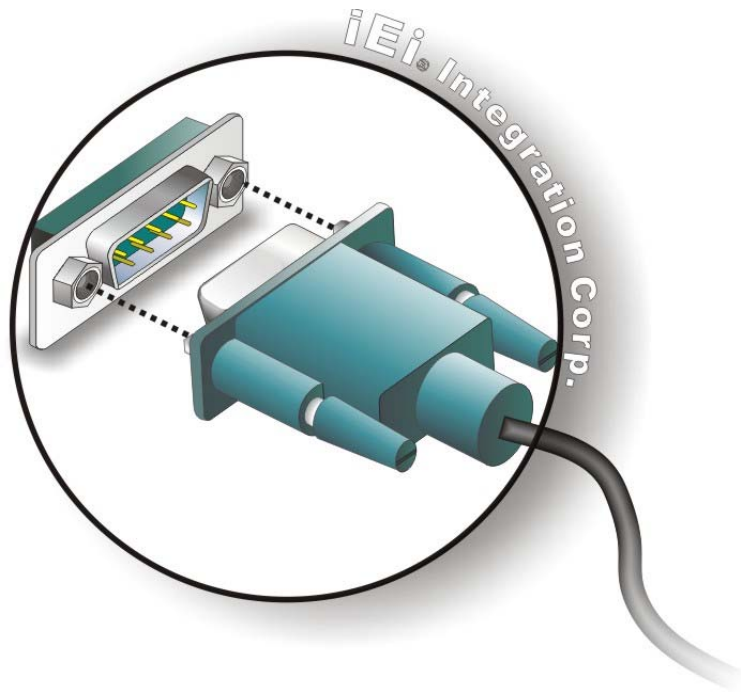

Figure 4-21: Serial Device Connector
Step 2: Insert the serial connector. Insert the DB-9 connector of a serial device into the DB-9 connector on the external peripheral interface. See Figure 4-21.